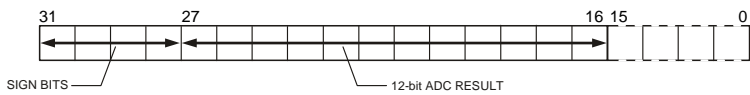

Figure 10: ADC Result Format
The top 4 bits are the sign bits and the 12-bit result is placed from bit 16 to 27 as shown in Figure 10. Again, it should be noted that in fully differential mode, the result is represented in two's complement format, and in pseudo differential and single-ended mode, the result is represented in straight binary format.
- **ADCDAT:** ADC Data Result Register, hold the 12-bit ADC result as shown Figure 10